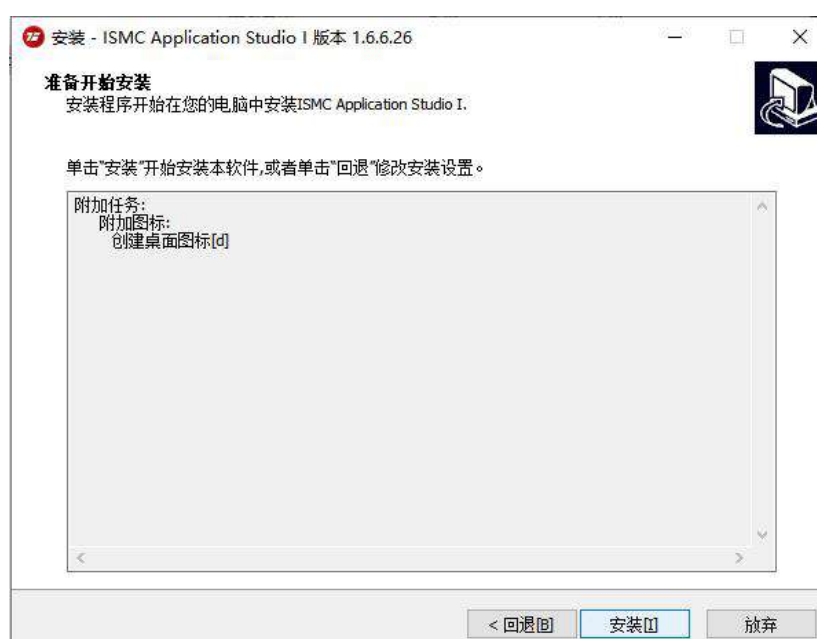

Figure 1-3 Start installation
④Click "Next" to prepare to start the installation, as shown in Figure 1-3.